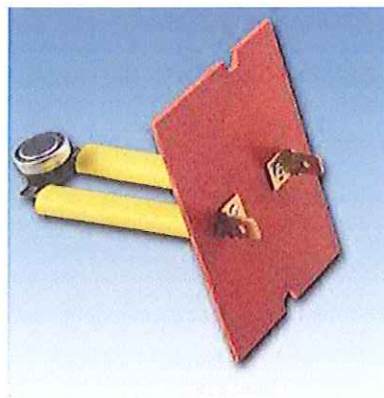

Figure 7
**36T Board Mount** – The 36T is mounted on extension straps, for applications where the thermostat must extend further into the airstream to sense adequately (*see figure 7*). Available strap lengths include 2" (50.4mm), 3" (75.6mm), 5" (126mm) and 7" (176.4mm). Insulating sleeves can be provided for the extension straps, and various mounting board configurations are available.